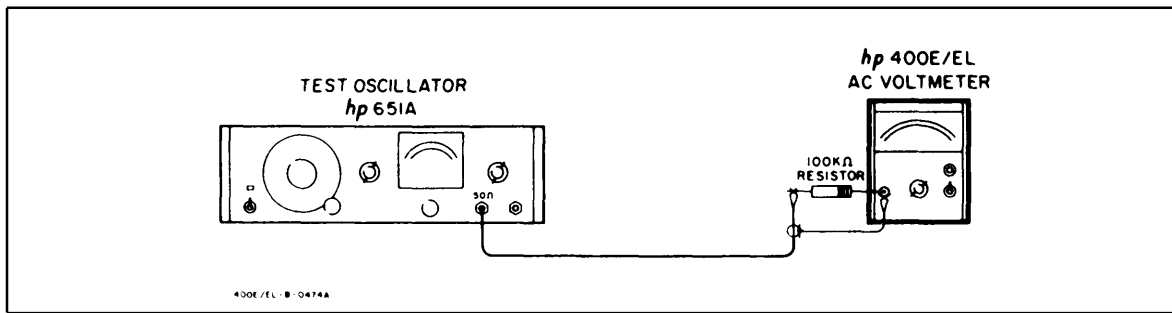

Figure 5-2. Input Impedance Check
- c. Connect a 100 K Ω resistor between the test oscillator output and the 400E/EL input as shown in Figure 5-2.
- Connect a test oscillator, a 100 K Ω resistor, and the 400E/EL as shown in Figure 5-2. Insert the resistor lead directly into the BNC connector on the 400E/EL, and connect the ground lead to the outer shield of the 400E/EL input connector. Do not use an adapter, as any adapter will add input capacity.